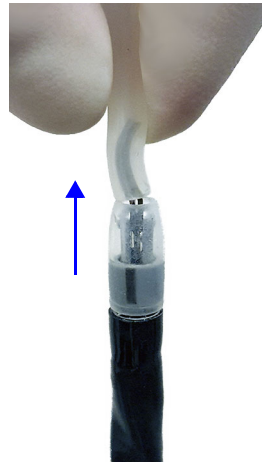

Figure 5.8 Remove installation tool from MCS Tip
- Remove the installation tool from the MCS Tip (Figure 5.8). If desired, retain the installation tool to aid in removing the MCS Tip after the procedure.